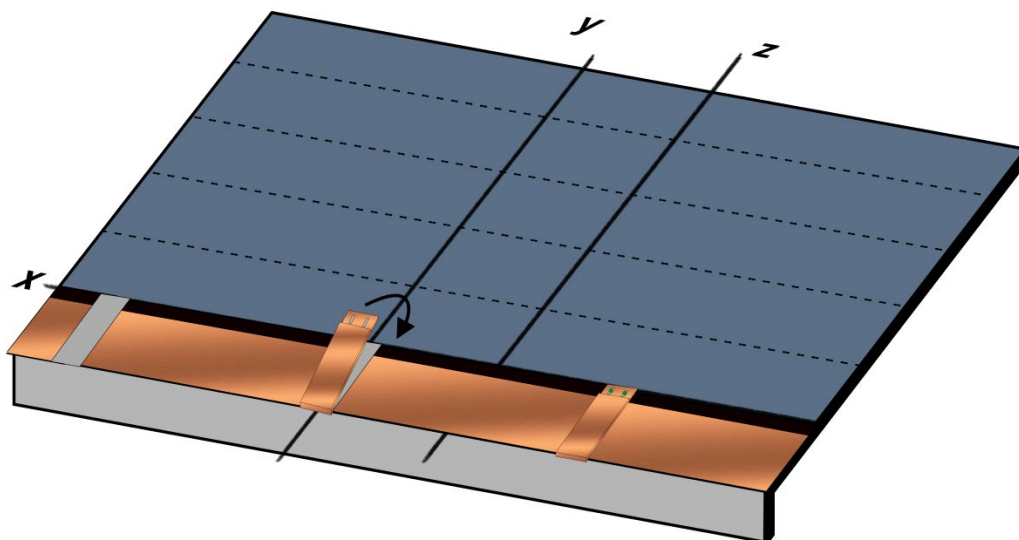

Fig. 9 - Compact Clip installation
- Insert the Compact Clip, aligning the central notch with the joint between two consecutive shingles. Proceed with nailing the Compact Clip, using the appropriate holes – green nails as shown in Fig. 9. This will also secure the shingles to the substrate with additional fastening points